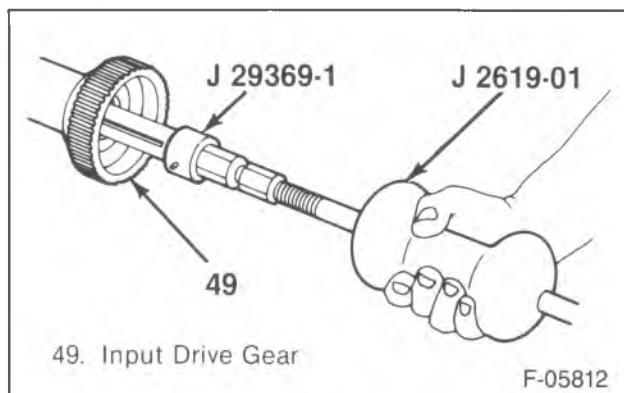

Figure 7—Main Shaft Pilot Bearing Removal
6. Input drive gear pilot bearing using J 2619-01 and J 29369-1 (figure 7).